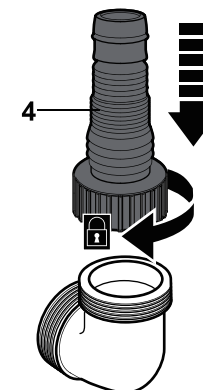

Fig. 1
- > Screw the connector (4) clockwise onto the adaptor if it is not already pre-assembled (Fig. 1).